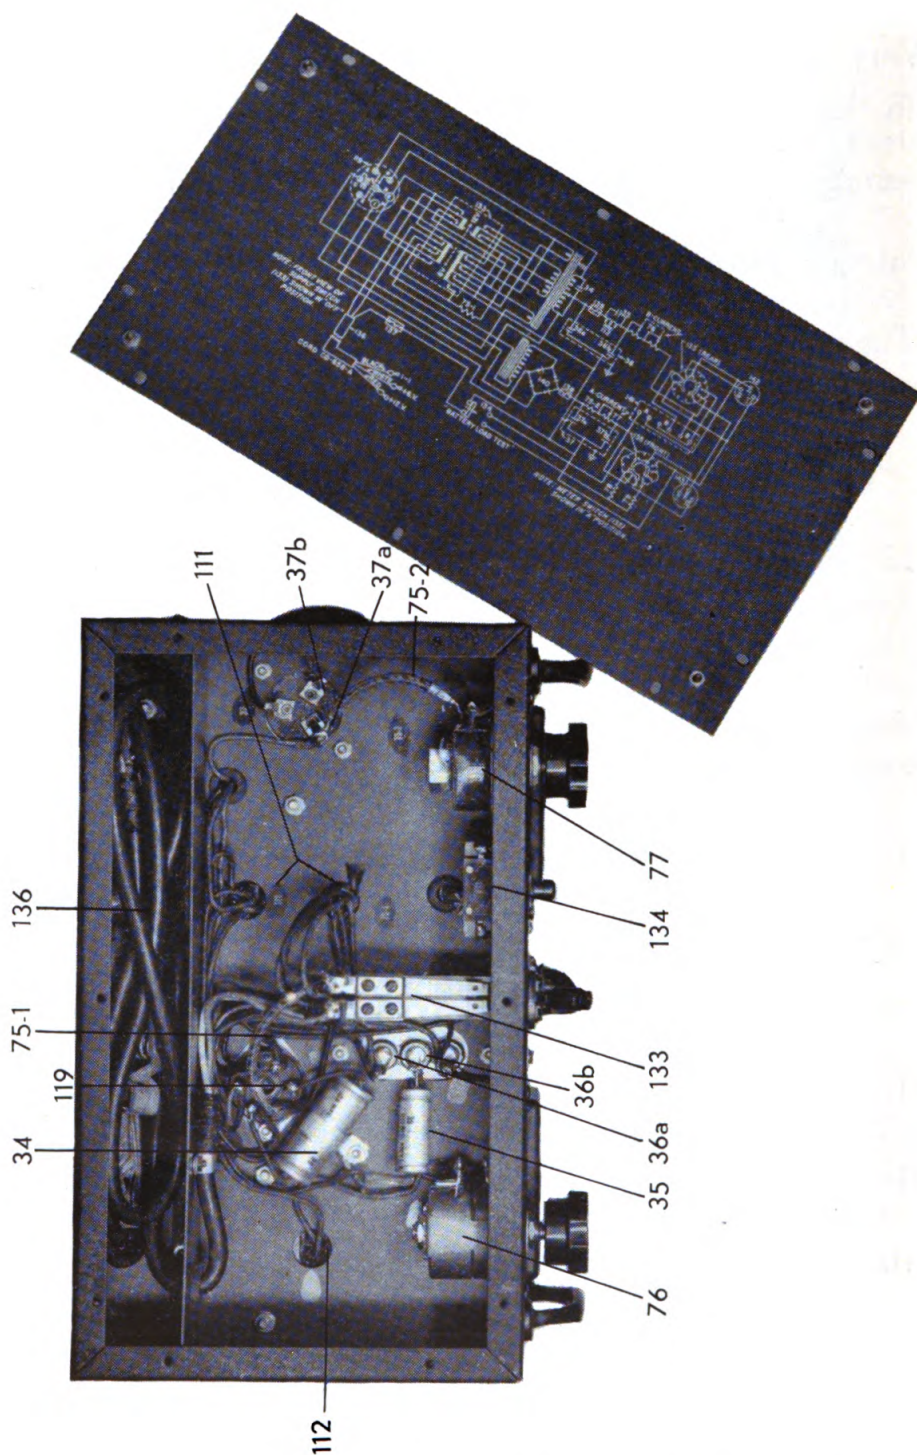

Figure 33. Battery Charger PE-128-A, Bottom View With Bottom Plate Removed
*a.* If you find trouble in the use of the charger, all the items in paragraph 23 should be thoroughly checked. If you can't fix the charger by using the remedies prescribed in this chart, the source of the trouble should be investigated through voltage and resistance measurements. Remove the ten screws holding the bottom plate of the charger so that the circuits are accessible. (See figure 33.)
*b.* The panel voltmeter (143) reading obtained when no batteries are in the circuit serves to indicate the presence of voltage in the "A" portion of the charger. If this voltage is low or entirely absent, an external voltmeter should be connected successively to the terminals of capacitor (37 a and b), and to the terminals of fuse (138). The presence or absence of voltage at these various points will indicate which circuit element is damaged. When there are no "B" batteries inserted in the charger, the panel voltmeter (143) does not indicate the charger voltage developed in the "B" portion. The voltage between the common negative of capacitor (36), and the terminals of fuse (139), and the terminals of control (76) should indicate the circuit element at fault. The normal voltage (with 6-volt supply) should be approximately 150 volts at the junction of the capacitor (36a) and fuse (139). If no load is connected, the same voltage will be measured at the terminals of control (76).
*c.* In the event that the voltage measured is abnormally low, capacitors (34, 36 a & b and 37 a & b) should be checked for breakdown. The resistance of the windings on transformer (111) are given